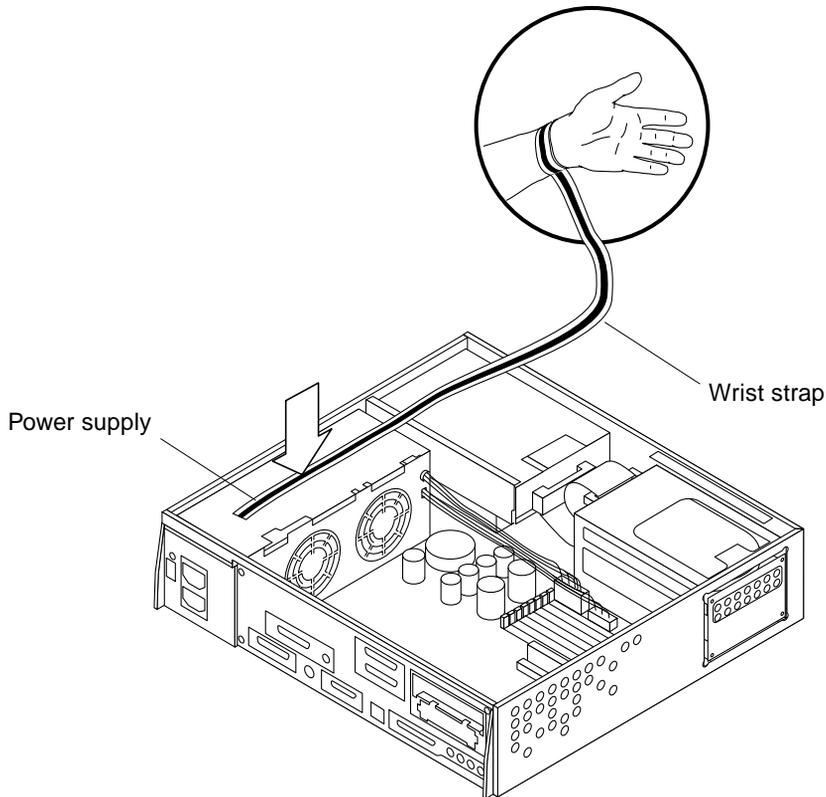

FIGURE 2-4 Attaching the Antistatic Wrist Strap
1. Locate the antistatic wrist strap and attach its adhesive copper strip to the metal casing of the power supply. Wrap the other end twice around your wrist, with the sticky side against your skin (FIGURE 2-4).